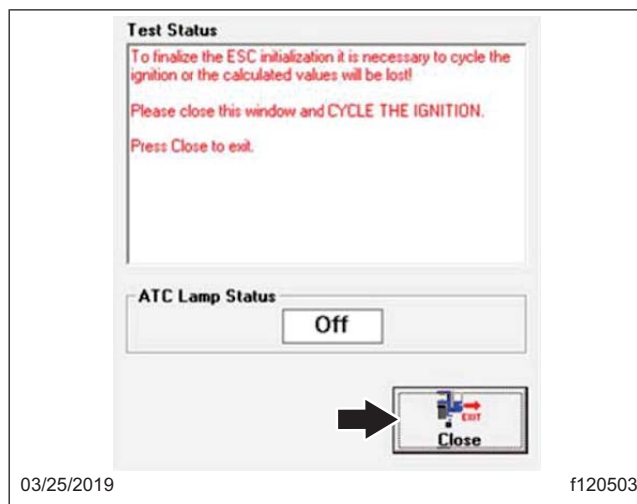

Fig. 13, ESC System Calibration, Test Status Screen 4
4. When the vehicle is stopped, the ESC end-of-line data with the steering ratios and steering angle offset values will appear. The data can be saved or printed for maintenance records. If saving or printing is not desired, select 'Close.' The next screen will automatically appear to complete the ESC initialization. See Fig. 13.